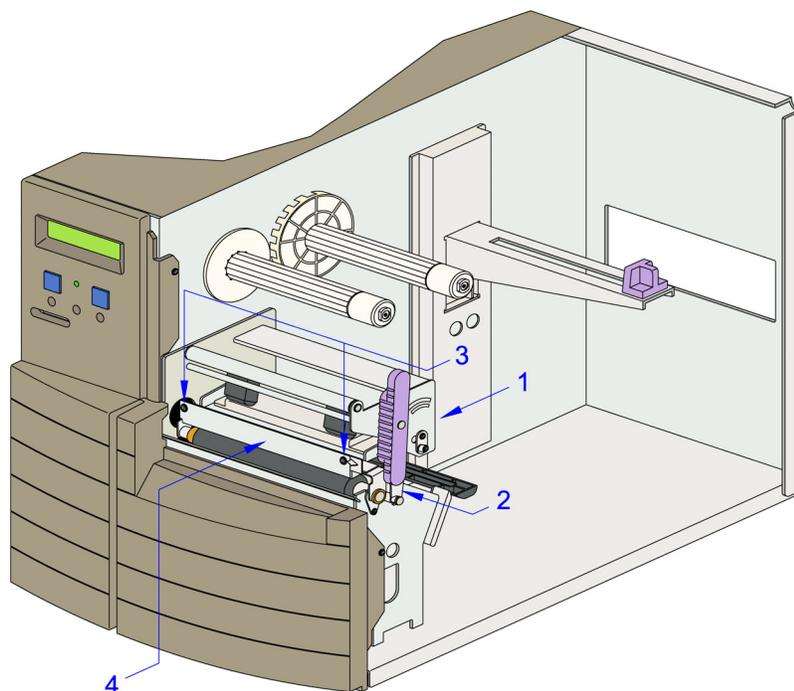

Figure 8-3, Ribbon Guide Alignment
NOTE: To facilitate viewing of pertinent components, Figure 8-3 does not show ribbon and media loaded. When performing this adjustment activity, both must be loaded.
- 2 Open the right housing cover to access print assembly (1, Figure 8-3) and disengage print head latch (2).
- 3 Loosen one of the two set screws (3) and move the free end of ribbon guide (4) upward or downward as necessary until the ribbon appears unwrinkled.
- 4 Retighten loose set screw (3) while holding ribbon guide (4) in place.
- 5 Engage print head latch (2), close cover, and test print a label.